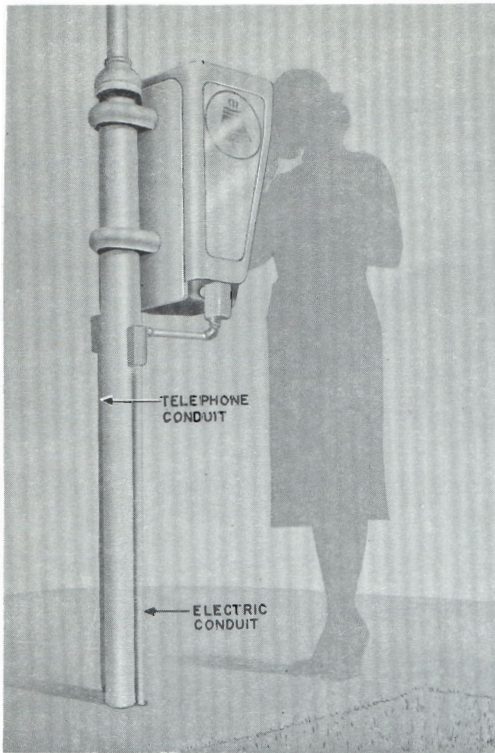

Fig. 2—Walk-Up Installation,
2.02 The walk-up public telephone is for pedestrians. It can be mounted on the same type of post as the drive-up telephone or on a wall or similar surface (Fig. 2 and 3).